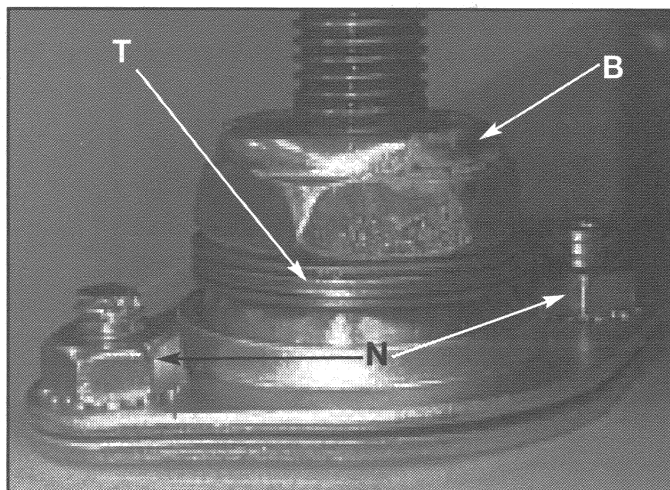

Fig. 41
1. At the base of three of the elevating screws there is a 3/4" lock nut (B) Fig. 41. Under this nut is a thrust washer, thrust bearing, and another thrust washer, [See (T) Fig. 41]. (Note: the front left elevating screw uses a jam nut and it should be tight.)
3. With a 7/16" open end wrench loosen (do not remove) the four nuts (N) Fig. 41 bolting the sheet metal flanges around the two elevating screws on the open end of the unit.
4. Oil thrust bearings on feed table screws [See (T) Fig. 41.]